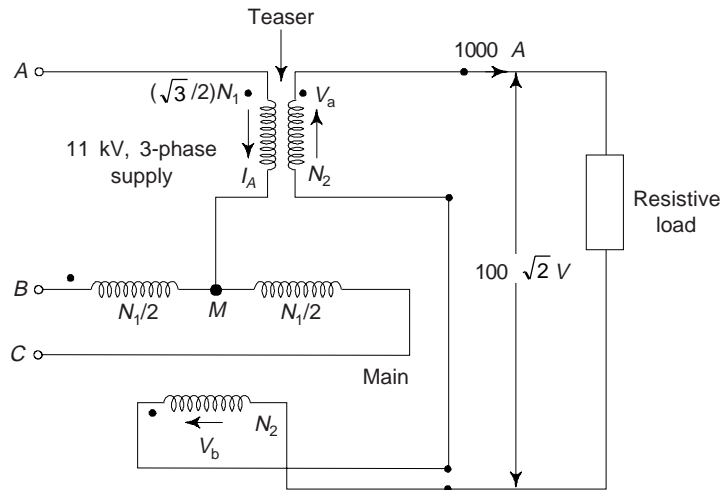

Fig. P3.49
3.49 Figure P3.49 shows a Scott-connected transformer, supplied from 11 kV, 3-phase, 50 Hz mains. Secondaries, series-connected as shown, supply 1000 A at a voltage of $100\sqrt{2}$ to a resistive load. The phase sequence of the 3-phase supply is ABC.
Solution Refer Fig. P3.49(a).